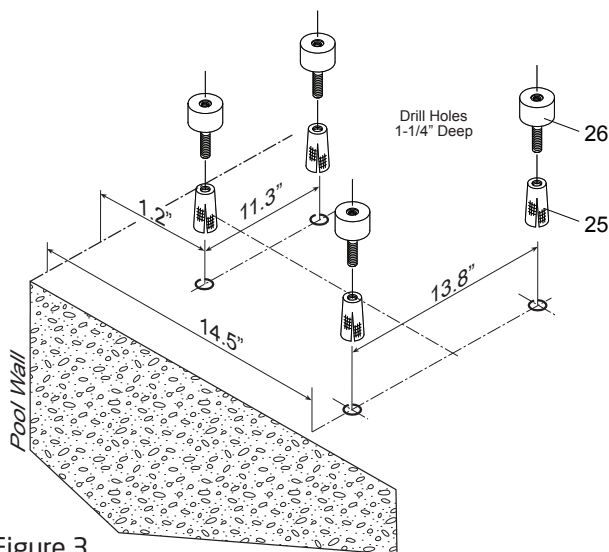

Figure 3
6. Install the four (4) rubber mounts (part# 26) into the four (4) M8 pool deck anchors (part# 25). Tighten down completely. (See Figure 3)